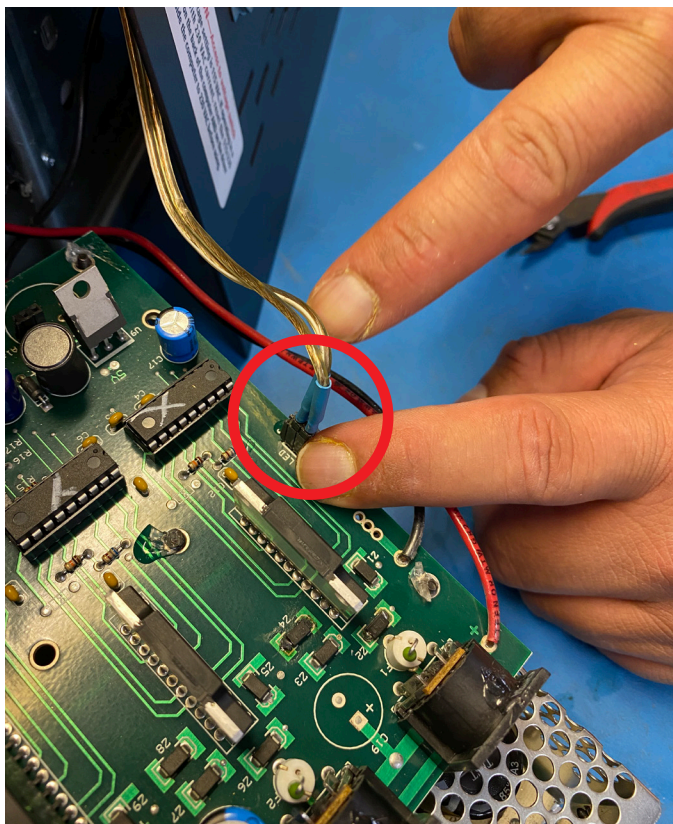

FIGURE 7
6. Pull the blue connector from the board (see Figures 7 and 8).